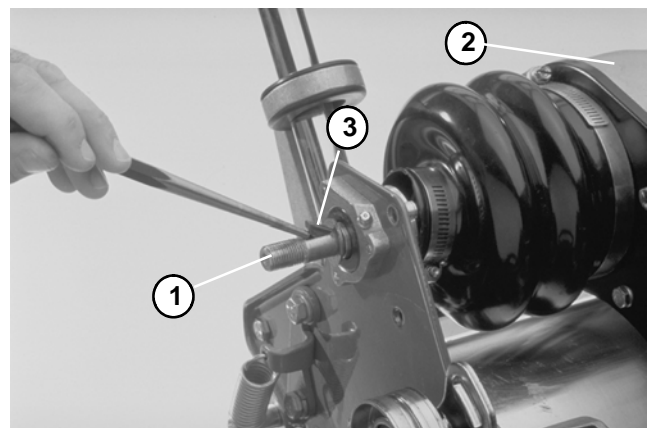

Figure 57
10. Slide pulley off the short axle on the right side of the countershaft housing. Remove key from the axle with a drift punch (Fig. 57).
6. Install pulley to the short axle as follows (Fig. 57 and 54).